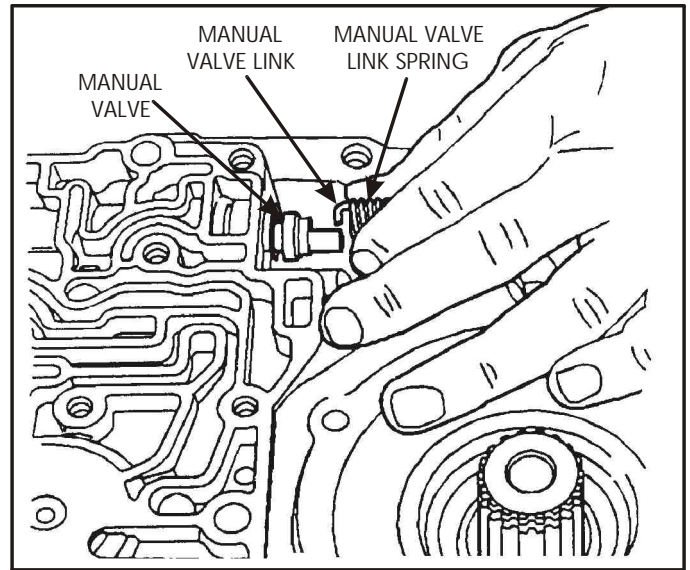

Figure 59
10. Compress the manual valve link spring and disconnect the manual valve link from manual valve, as shown in Figure 59.